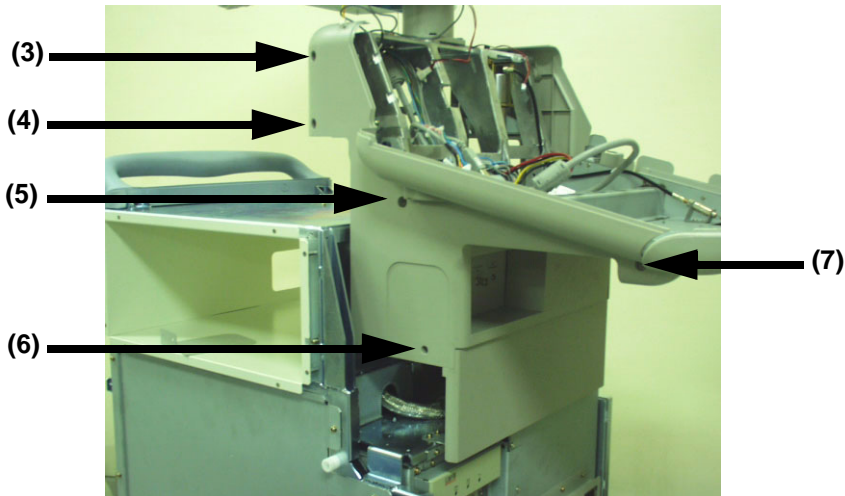

Figure 8-58    Unscrew 5 screws to remove OP L Cover
7.) Unscrew five screws (3-7) and remove OP Side L Cover. Refer to Figure 8-58.